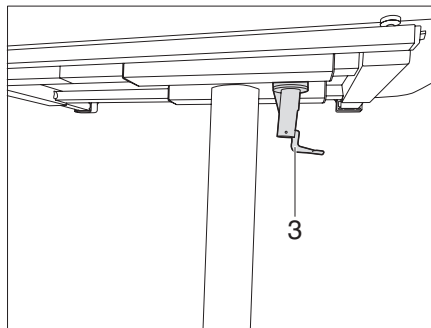

Fig. 80 Lock the folding table
- Swivel the catch lever (Fig. 80,3) to the right. The lift-off table is locked and can no longer be moved.